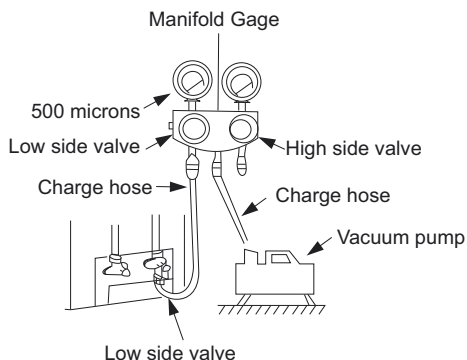

Fig. 8 – Manifold
- 3 Fully open the low side of manifold gage (see Fig. 8).